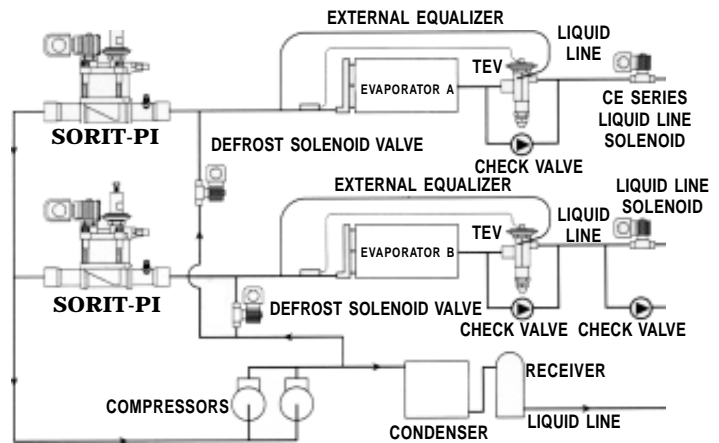

Figure 4
Pilot Operated Evaporator Pressure Regulating Valves with a solenoid stop feature are often applied on systems using gas defrost methods. Defrost solenoid valves are shown in Figure 4 for illustrative purposes only. Gas defrost begins when the defrost solenoid coil is energized (valve open) and the SORIT-PI solenoid stop coil is de-energized (valve closed). Discharge gas flows through the defrost solenoid valve and then flows in reverse through the evaporator. The gas condenses during the cycle and continues to flow in reverse around the thermostatic expansion valve through a check valve and through the liquid line to the liquid header until the defrost terminates. Upon termination, the defrost solenoid coil is de-energized (valve closed), and the SORIT-PI solenoid stop coil is energized (valve modulating). Normal operation then resumes.
**Figure 4** is a piping schematic only to illustrate the general location of the (S)ORIT-PI valves in the system. Sporlan recommends that recognized piping references be consulted for assistance in piping procedures. Sporlan is not responsible for system design, any damage arising from faulty system design, or for misapplication of its products. If these valves are applied in any manner other than as described in this bulletin, the Sporlan warranty is void.